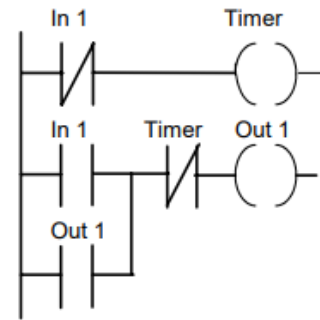

Figure 9.17 Problems 1 to 3
Problems 1 to 3 refer to Figure 9.17 which shows a ladder diagram with an on-delay timer, an input In 1 and an output Out 1.
1. Decide whether each of these statements is True (T) or False (F). When there is an input to In 1 in Figure 9.17: (i) The timer starts. (ii) There is an output from Out 1.
The timer in Figure 9.17 starts when: